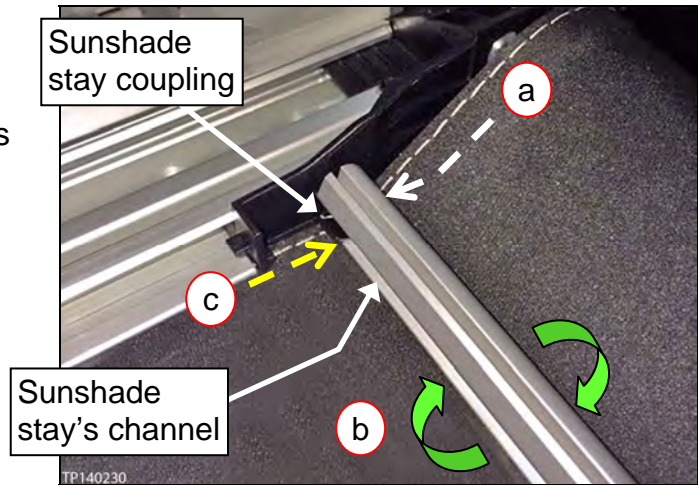

Figure 18
- a. Position the sunshade stay couplings inside the sunshade stay's open channel as shown in Figure 18.
- b. Rotate the sunshade stay 90° (see Figure 18).
- c. Snap in place both ends of the sunshade stay on each sunshade coupling (see Figure 18).